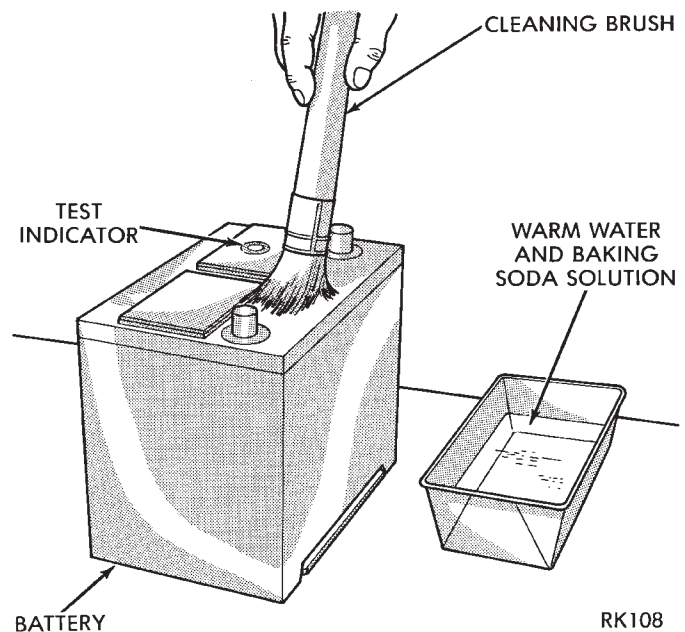

Fig. 2 Cleaning Battery
(2) Clean the outside of the battery case if the original battery is to be installed. Clean the top cover with diluted ammonia or a sodium bicarbonate/water solution to remove the acid film (Fig. 2). Flush with clean water. Ensure that the cleaning solution does